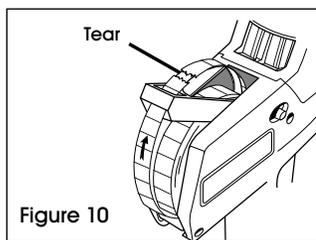

Figure 10
1. Tear label strip at label roll as shown and pull label roll from between hubs. (See Figure 10)